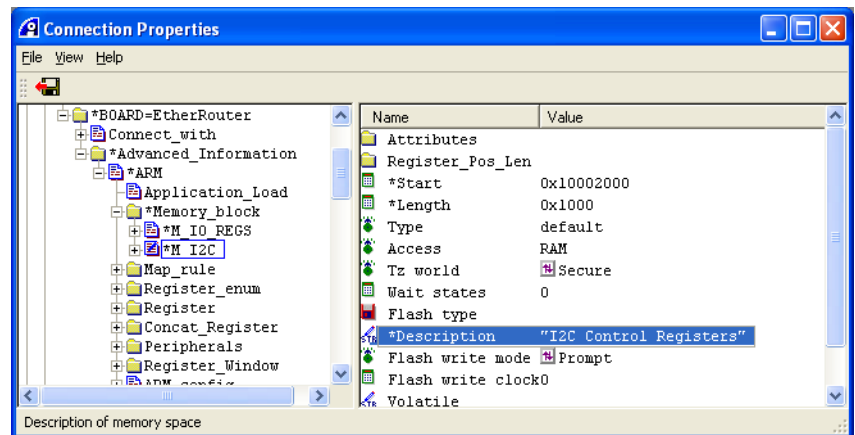

Figure 5-10 Configuring the M_I2C custom register
- d. Set Description to **I2C Control Registers**, shown in Figure 5-10 on page 5-17.